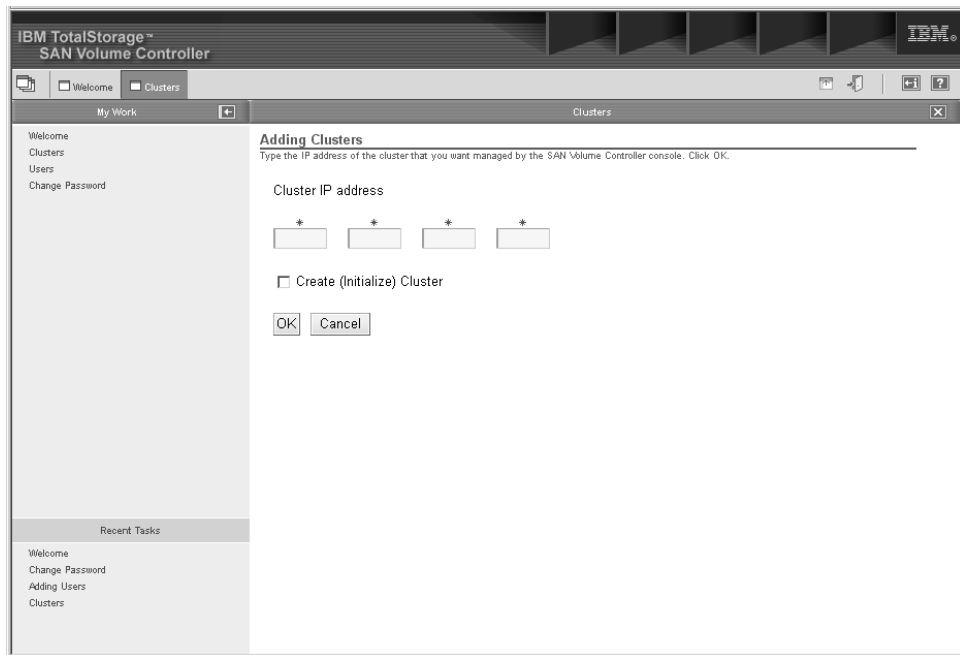

Figure 27. Add Cluster panel
- a. The Welcome panel is shown as in Figure 27 on page 90. Click the **Add SAN Volume Controller Cluster** button.